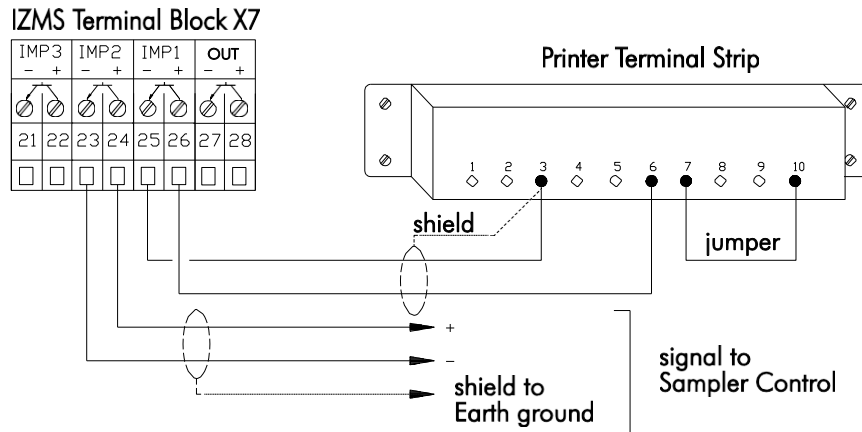

Figure 3-16. Veeder-Root Series 7690 and SA11 Sampler Control Signal Wiring Configuration
- P Veeder-Root Series 7690 and SA-11 Sampler Control (Figure 3-16)